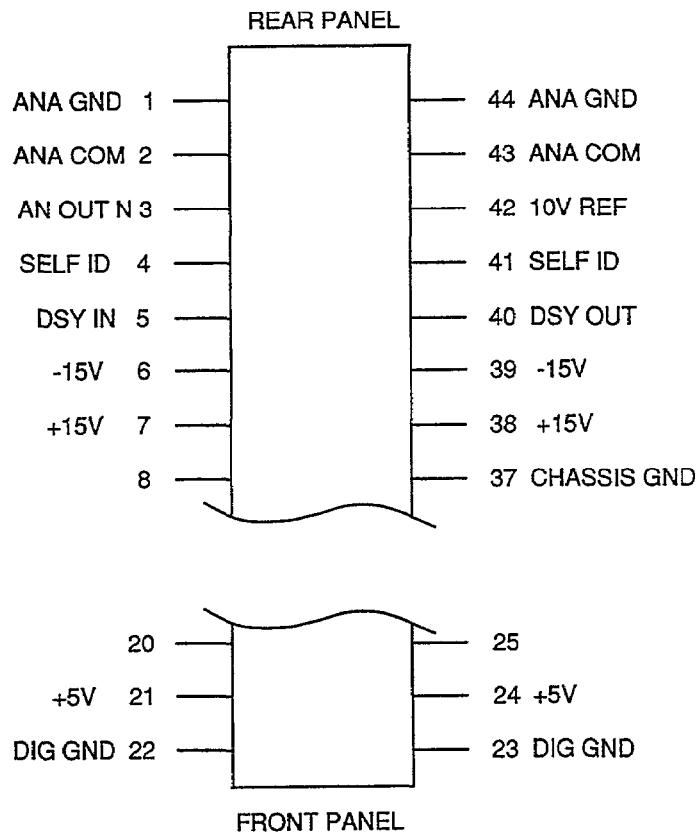

Figure 6-1. Power Supply Checks (Option Slot)
4. Referring to Figure 6-1, check the voltage levels at the option slot. The allowable voltage readings are listed in Table 6-1.